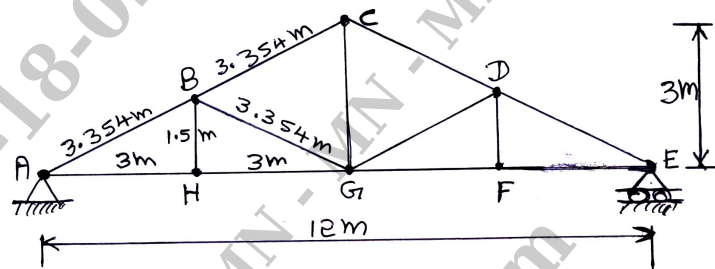

Fig.Q4
4. Design a bolted steel Howe truss having an effective span of 12.00m. The geometry of the truss is as shown in Fig.Q4. The forces induced in the members due to dead load, live load and wind load is tabulated in Table.Q4. Determine the design forces in the members due to various combination of loads as per IS – 800 provisions and hence design principal rafter, principal tie and main sling member with all the necessary safety checks including the reversal of stresses. Also design support joint 'A' by considering the size of supporting reinforced cement concrete column as $300 \times 300\text{mm}$, the design bearing pressure on the concrete is limited to 2N/mm^2 and the design bond stress between anchor bolt and concrete is limited to 1.2N/mm^2 . Use M16 ordinary black bolts of grade 4.6 for designing member and connection with gusset plate and M25 bolt as anchor bolt at supports. List the design details.